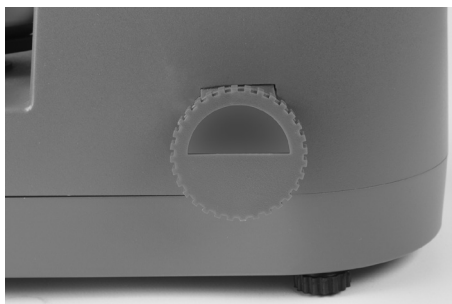

Fig. 7 - Drain spout on right side of dispenser
Step 1. Place a tray under the drain spout (*Fig. 7*) on the right side of your dispenser.